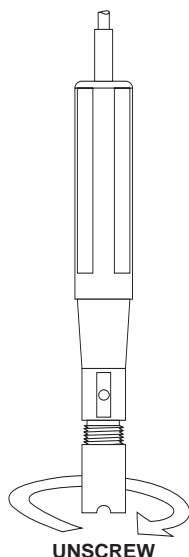

fig. 2
- Unscrew the membrane cap by turning it counterclockwise (fig.2).